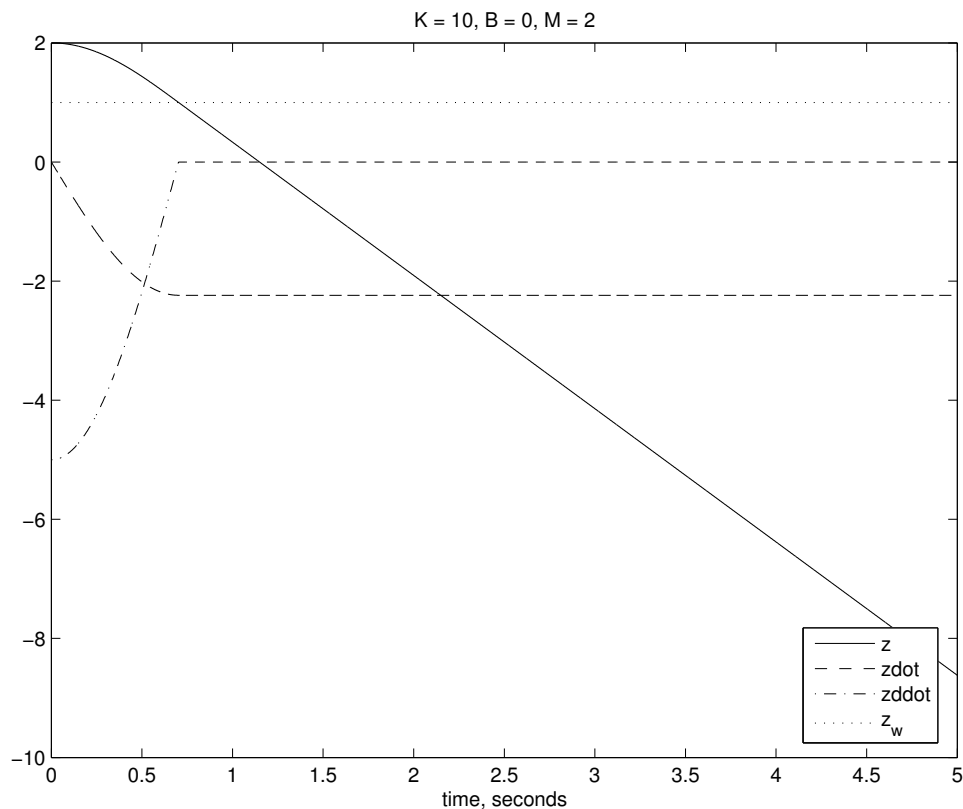
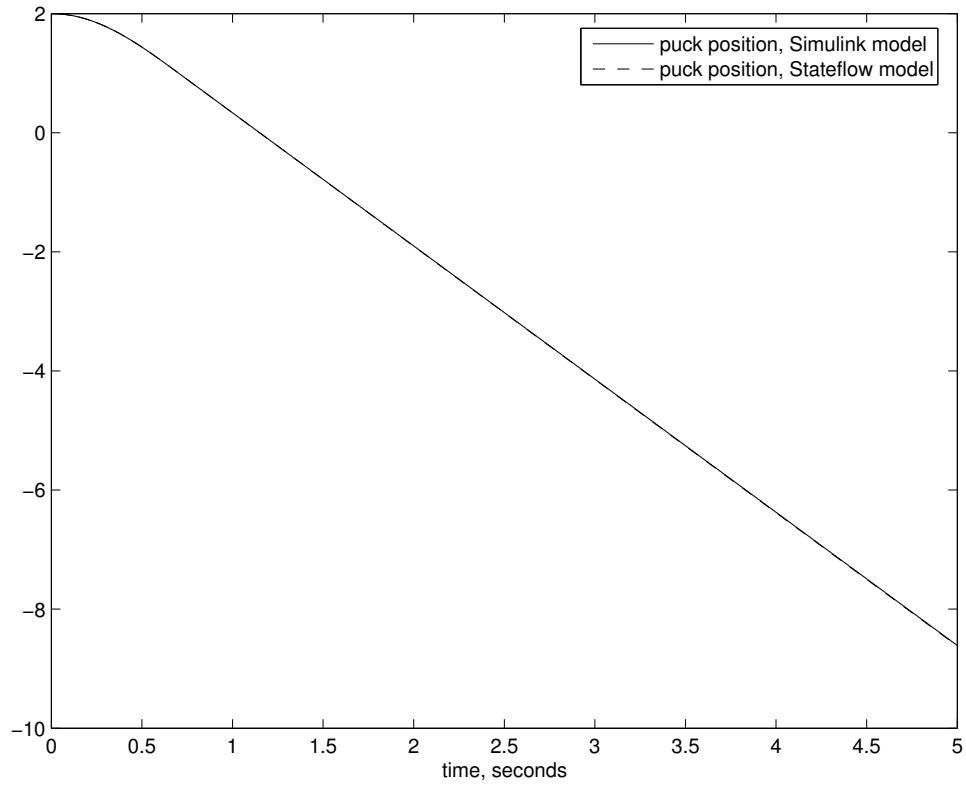

Figure 3: Simulation of the puck behavior obtained using the Stateflow model.
Figure 4: Comparison between the Stateflow and the Simulink only simulations.
2. (a) A Matlab simulation of the puck behavior, using Stateflow, is shown in Figure 3, and a comparison between this simulation and one using Simulink only is in Figure 4.